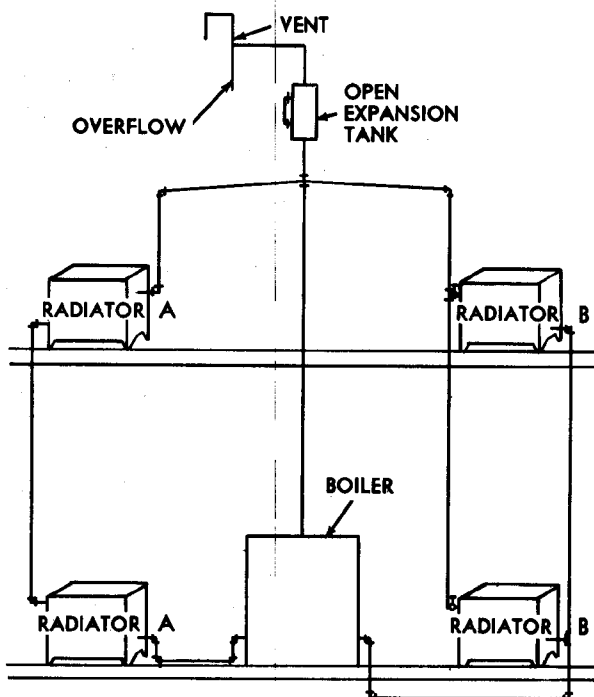

Figure 4-11. Open downfeed gravity system.
(3) *Open downfeed gravity systems.* Where a boiler is installed on the same level as the lowest radiator, a downfeed system (fig. 4-11) is used. In addition to simplifying the piping to the radiators on the same level with the boiler, this system, by carrying the supply riser as high as practicable in the same building, increases the head available to provide water circulation. Radiators may be connected in series as shown in AA, or in parallel as